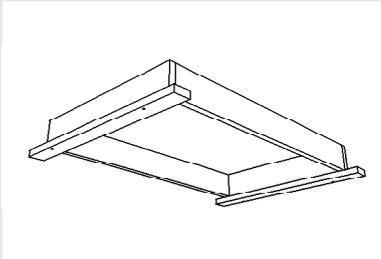
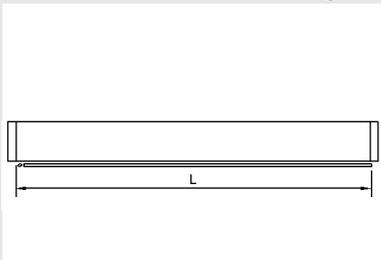

fig 10
fig 11
1. Screw two temporary cleats that are the full width of the opening to the ceiling (figure 10). Fix one cleat at the hinge end protruding 15mm into the opening. The other, at the opening end, must protrude 15mm into the opening also. The distance between these cleats must be $L + 10\text{mm}$ as seen in figure 11.